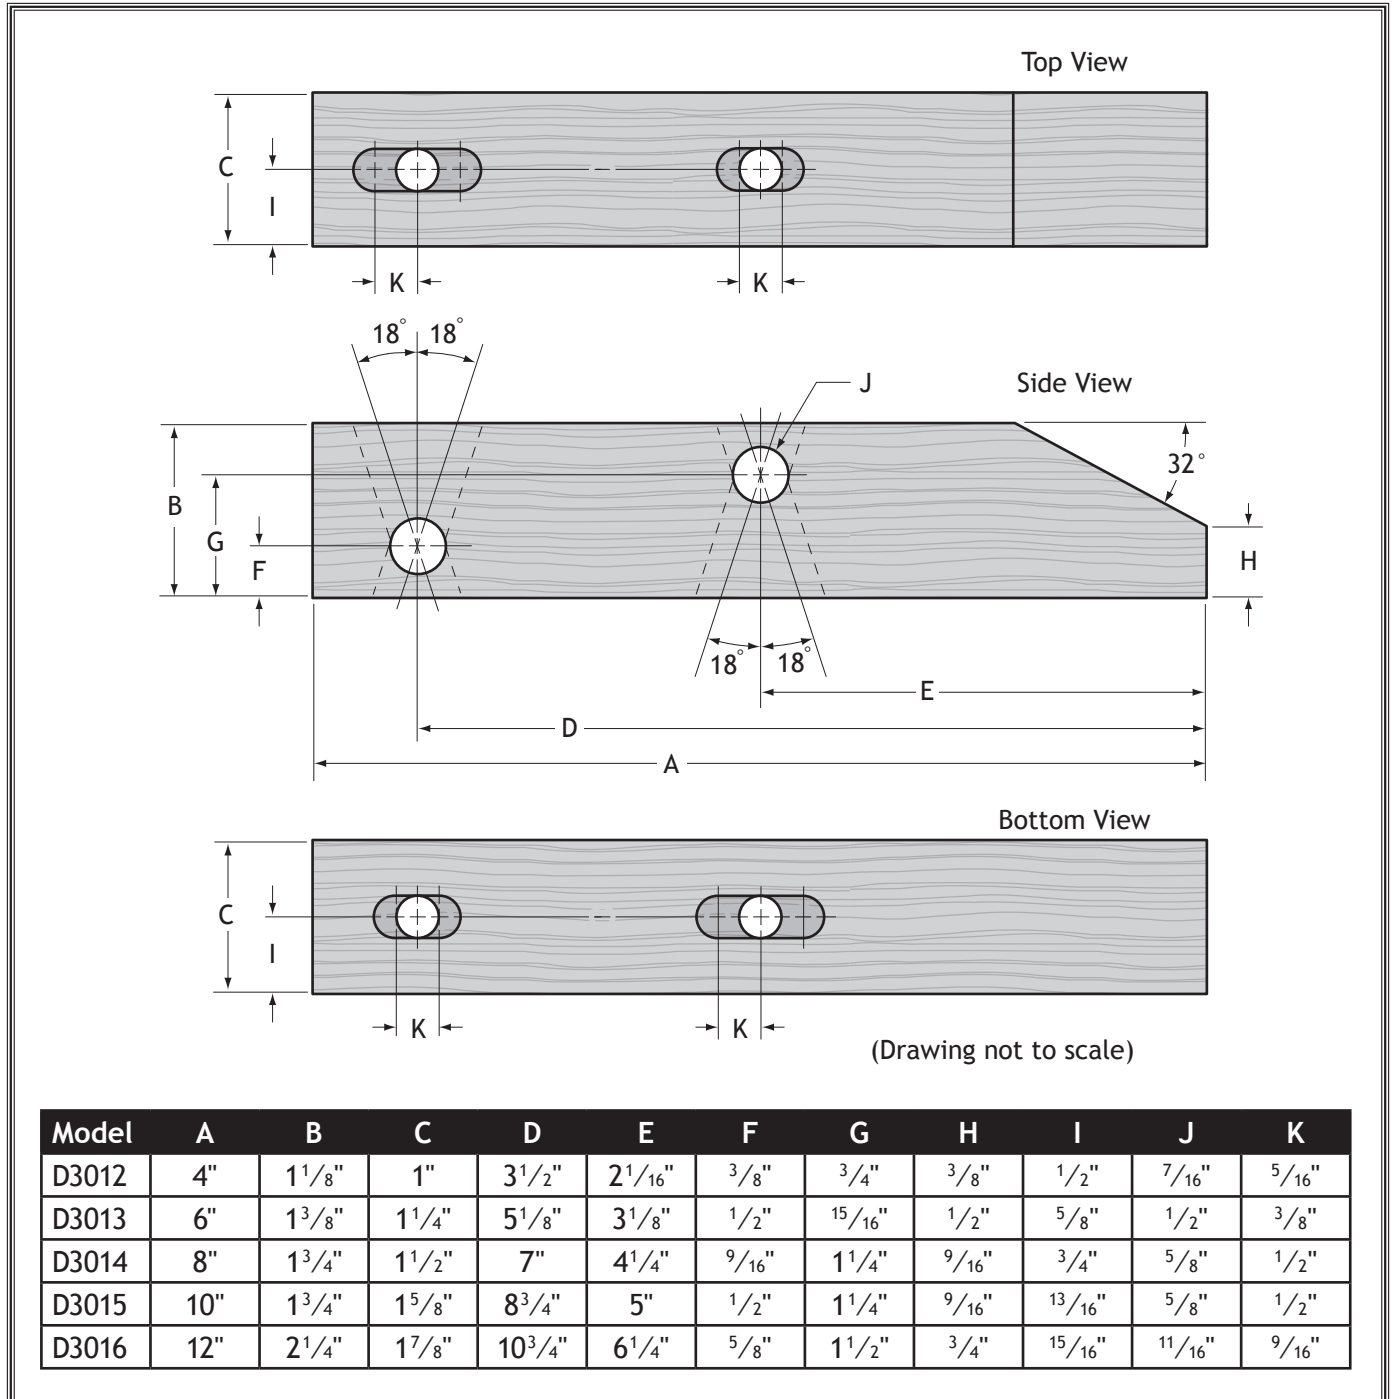
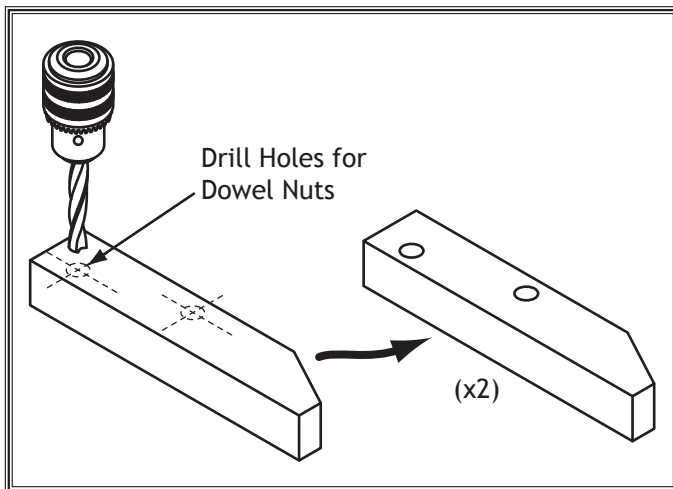

Figure 2. Sizing information.
Figure 3. Drilling dowel nut holes.
1. Use the drawing and dimensions from **Figure 2** or your own design to cut out the shape of the clamp jaws. Sand all edges to reduce splinters and workpiece marring.
2. Drill four holes for the dowel pins in the locations shown in **Figure 2** or the approximate locations shown in **Figure 3**. Refer to **Sizing Information** on the **Page 2** for the proper hole size.